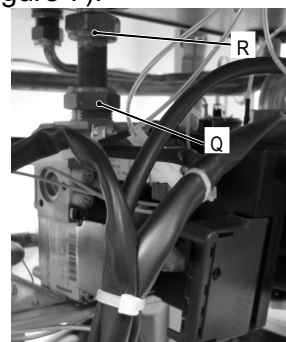

Figure 7
- 4) Loosen the connections Q (Figure 2 and 7) and R (Figure 7).